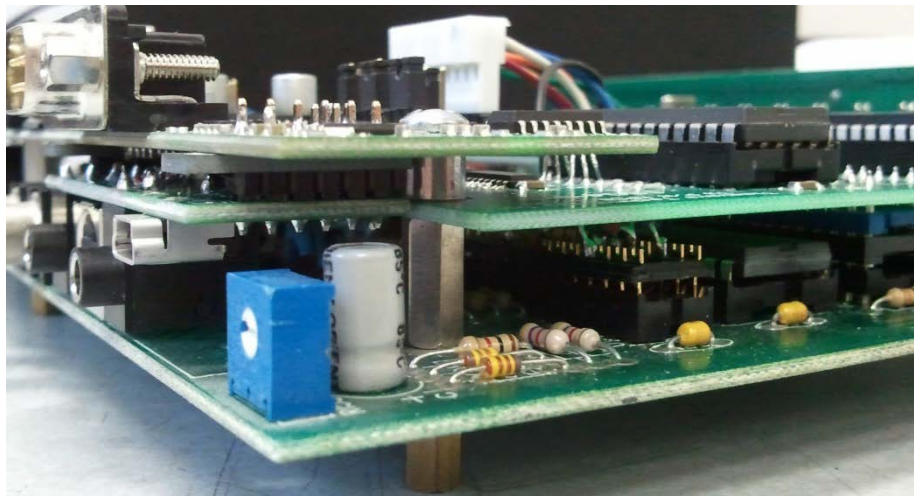

Fig 12 - Side view of SC, MBX & main boards with spacer between SC board and MBX board
See Figure 12.
- ___ **5) Place spacer on top of MBX board. See Figure 12.**